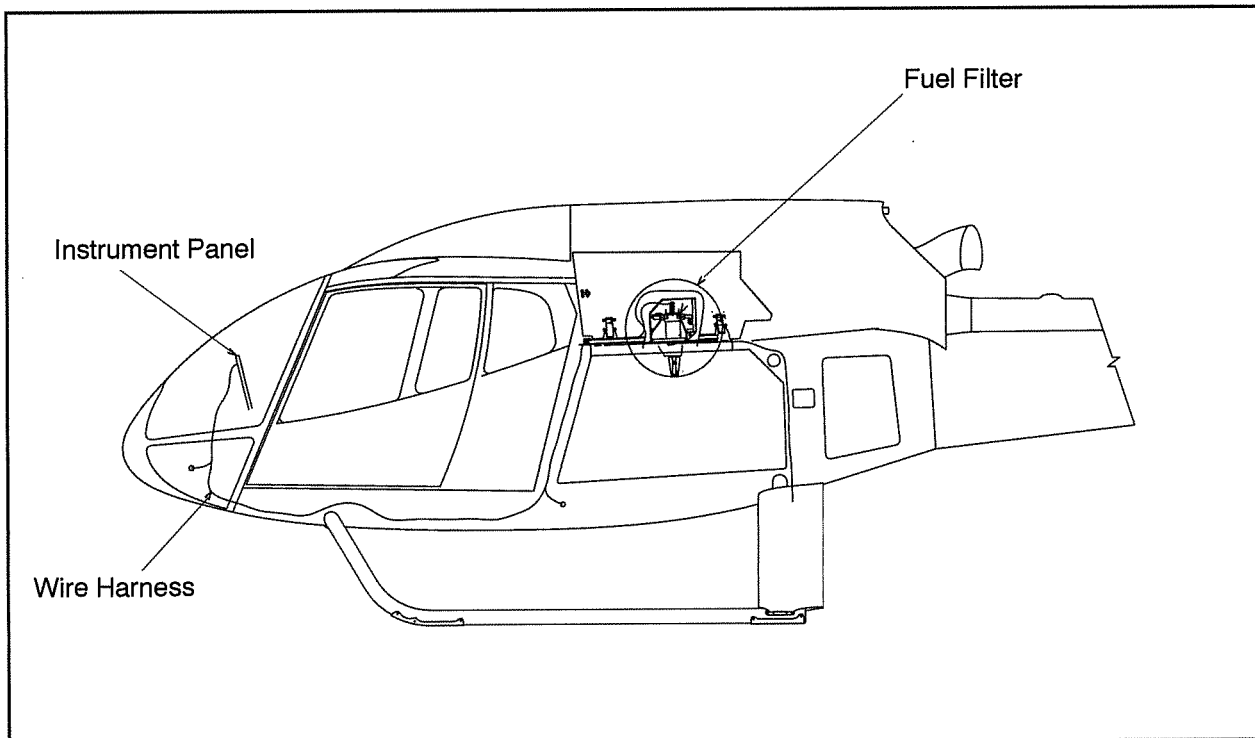

Figure 1 General Layout
- A. The Airframe Fuel Filter enables operation of the helicopter at low temperatures without the use of anti-ice additives in the fuel. The filter is designed to collect ice particles. The filter contains a bypass valve and a bypass delta pressure switch. An annunciator light in the cockpit is provided to warn the pilot of an impending bypass of the filter. Refer to Figure 1 for General Layout.